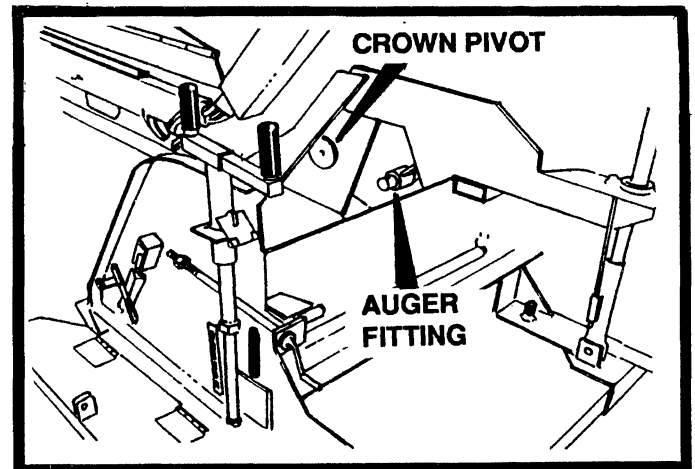

FIGURE 29
5. There are five grease fittings that should be greased daily with a good grade of multipurpose grease. Two fittings are on the outside end of each auger and two on the conveyor pivot just ahead of the auger grease fitting. See figure 29.